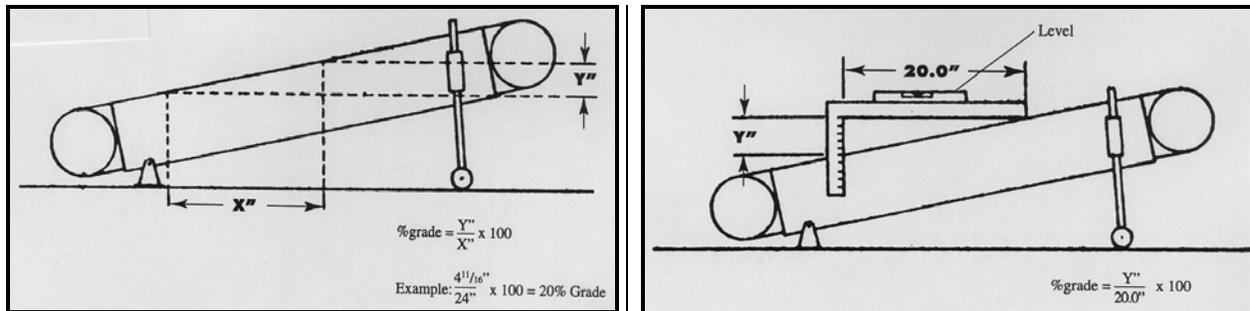

Figure 2-3. Calibration of elevation
- Using the carpenter's square and a level, measure the change in grade from low to high (rise over run). The change in grade should equal 4 12/16 inches for every 24 inches of length (or 2 2/8 inches for every 11 inches of length. See Figure 2-3.